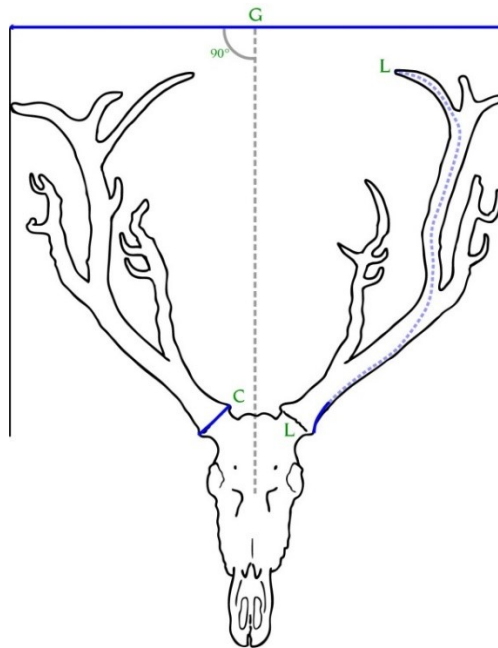

Figure 1
1. Identify and Measure the Main Beam. Because the main beam is hard to identify and, if done wrong, will confuse the measurement of the tines (see below), the main beam is measured first. The main beam starts at the burr and is the part of the antler that extends farthest upward after the first “Y” fork. As it goes upward, it tends to go forward most often. However, on some heads, the main beam can point inward and on other heads it will point outward. (Figures 1 and 2) When in doubt, measure the part of the antlers that is the highest and the most forward. Measure the main beam on the center of the outside curve from the lowest edge of the burr to the tip. (Figures 1 and 2, L) The tape must not be pressed into the groove above the burr.